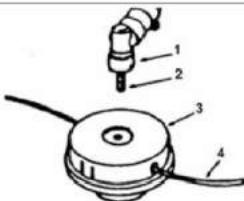

Fig.BC6
4.5- Installing the nylon wire spool (Fig.BC6)
- Fig.BC6